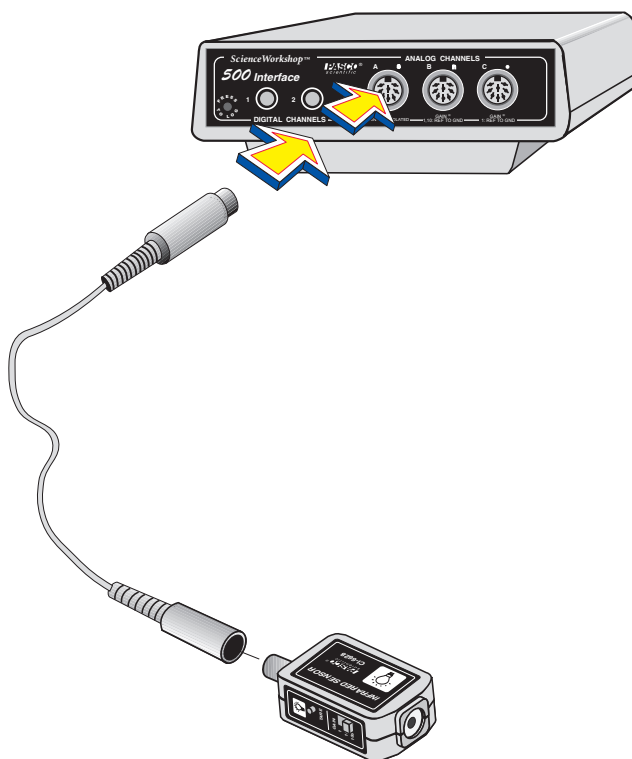

Figure 1
1. Connect the Infrared Sensor unit to analog channel A, B, or C of the *Science Workshop* computer interface box using the cable with the DIN connectors (Figure 1). Alternatively, the unit can be plugged directly into the analog channel jack without using the cable.